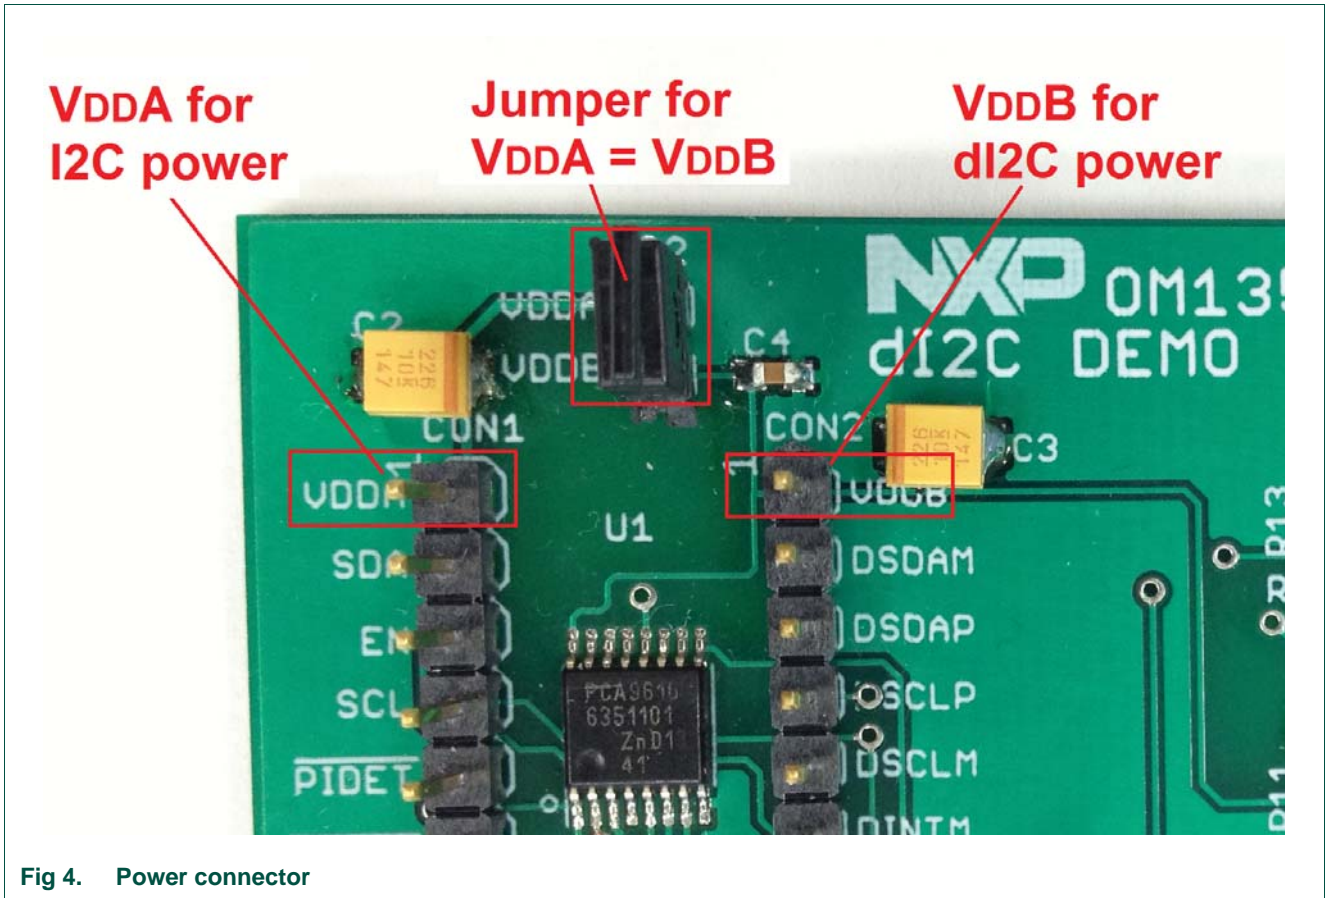

Fig 4. Power connector
- Using Fm+ Development Board (Fm+ DB): There is no direct connector to the Fm+ DB. The dl2C demo board can draw the power from an Fm+ DB using either 3.3 V headers (CN21) or 5 V headers (CN22) to the VDDA of CON1 on the dl2C demo board. VDDB can use the same power as VDDA by connecting JP2, or using jumper wire from CN21 or CN22 of Fm+ DB (see Figure 4).